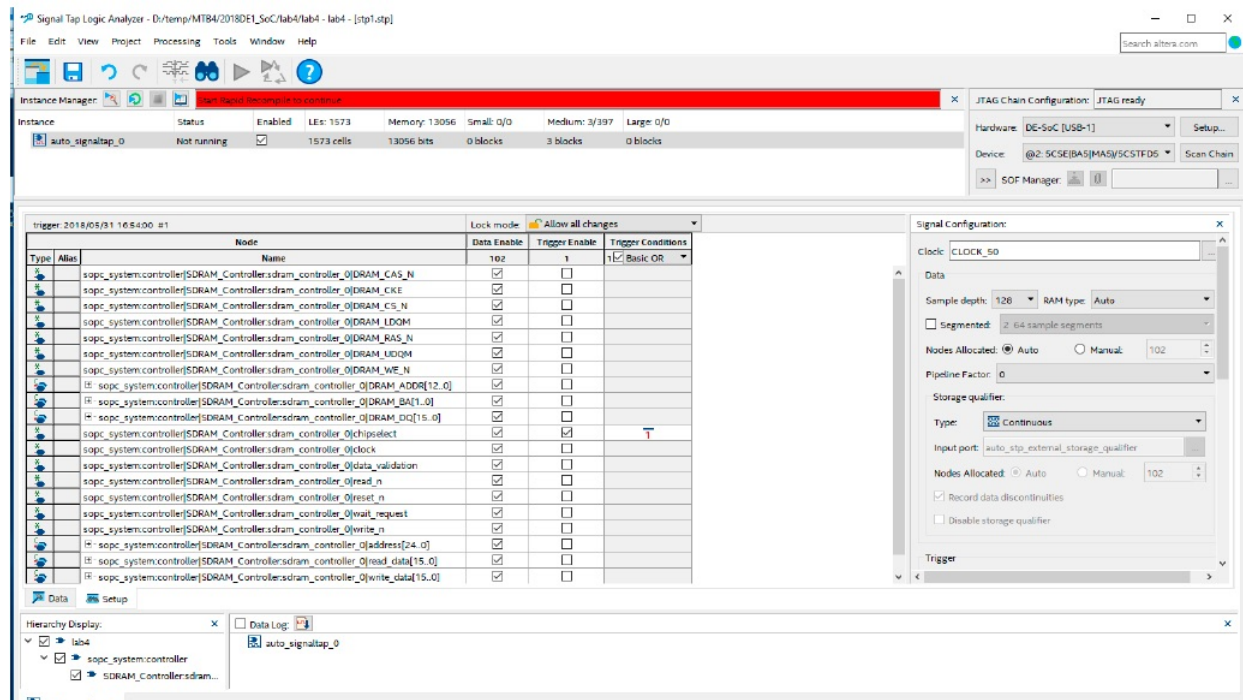

Figure 9: A possible setup for Signal Tap Logic Analyzer
3. Select **CLOCK_50** to be the clock for the system, as you learned in the tutorial. Set the analyzer to trigger only on a high value of the chipselect signal. (A possible setup is shown in Figure 9)